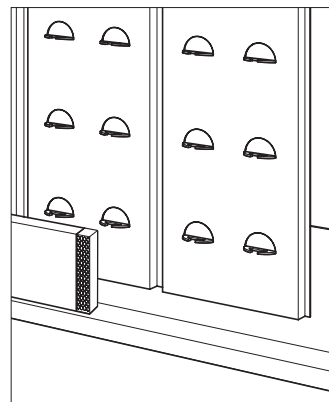
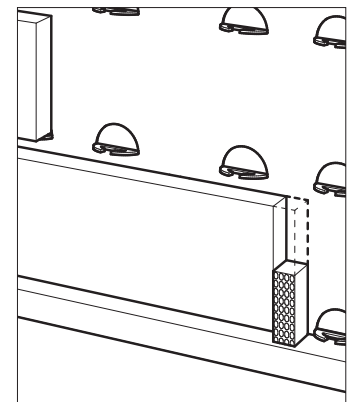

FIGURE 15
FIGURE 16
- Weep vents at least 1 in. high are required for *Elite* applications (See Figure 15) and may be used in lieu of open head joints for exterior *Classic* applications (see Figure 16). Apply a dab of adhesive to one end of the air vent (weep) and install vertically between brick with adhesive end at the top so that water drains at the bottom.